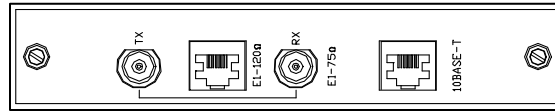

Figure 7 Panel of AN-FE1-ETH Bridge module
- The small panel of AN-FE1-ETH bridge module, as shown in figure 7.